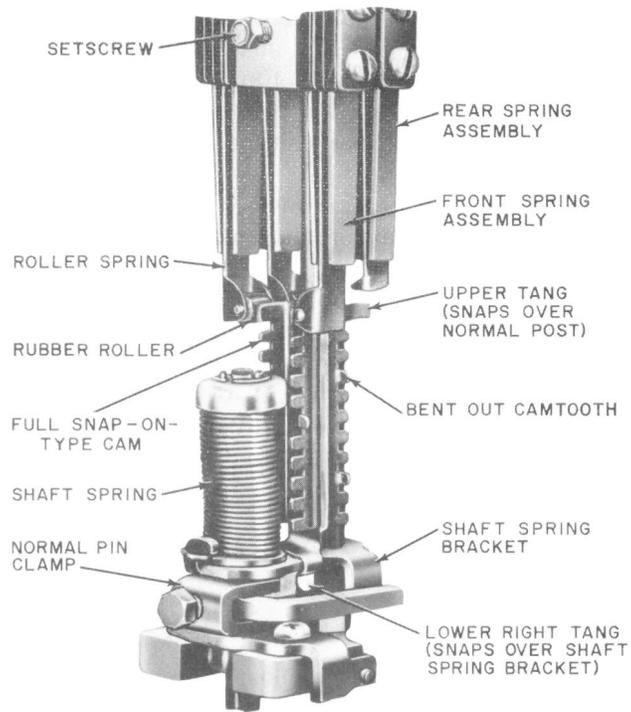
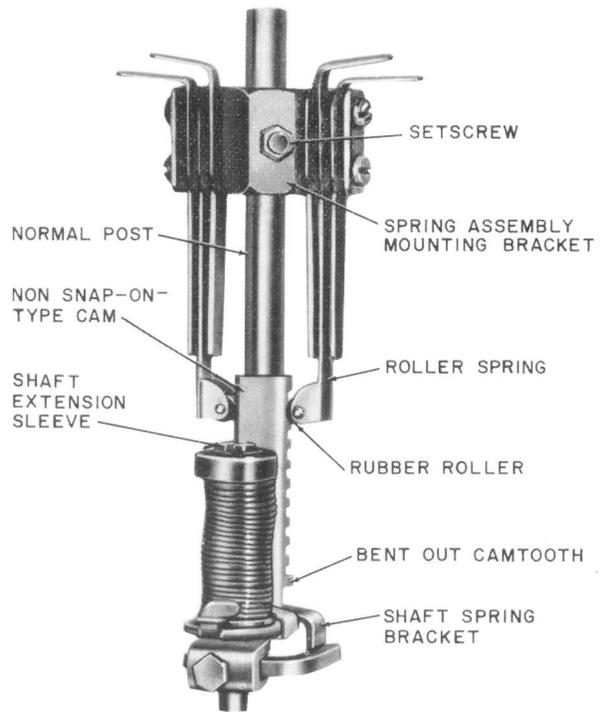
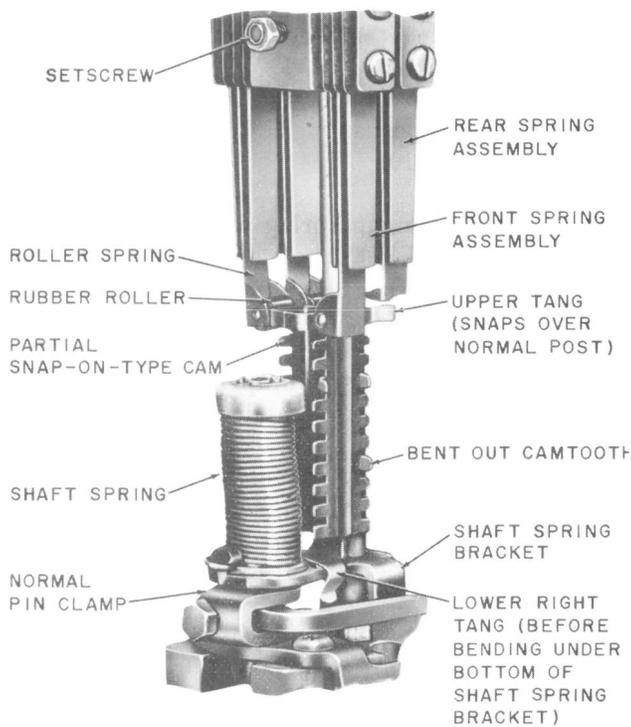

Fig. 11—Normal Post Spring Assembly Having Rubber Rollers Operated by Full Snap-on-Type Cam
Fig. 13—Normal Post Spring Assembly Having Rubber Rollers Operated by Nonsnap-on-Type Cam (Single Cam Illustrated)
Fig. 12—Normal Post Spring Assembly Having Rubber Rollers Operated by Partial Snap-on-Type Cam
NORMAL POST SPRING ASSEMBLY AND ASSOCIATED PARTS**Normal Post Spring Assembly With Cam per Fig. 11, 12, 13, and 14**
- (1) To replace the normal post spring assembly on a switch equipped with a helical shaft spring assembly, it is necessary to replace the shaft spring bracket, normal pin, and normal post spring assembly, and to add a normal post cam in accordance with Fig. 5. Full-, partial-, or nonsnap-on-type cams shown in Fig. 11 through 13 may be used.
- (2) Tag and disconnect the leads to the normal post spring assembly. Loosen the normal post spring assembly clamping screw with the 3-inch C screwdriver or the 555A wrench. Lift the spring assembly from the top of the normal post.
- (4) If the camteeth are not bent out to operate the normal post springs at the proper levels, bend out the camteeth corresponding to the levels at which the springs are to operate as covered in 3.14(5).
(5) Then mount the normal post cam as covered in 3.14(7) if it is a full snap-on-type cam per Fig. 11; as covered in 3.14(8) if it is a partial snap-on-type cam per Fig. 12; or as covered in 3.14(9) if it is a nonsnap-on-type cam per Fig. 13 and 14.
(6) Mount the new spring assembly on the normal post, placing the assembly so that the springs operate properly. Tighten the assembly mounting screws securely. Connect the leads to the spring terminals. Check all requirements on the normal post spring assembly and associated parts as covered in Section 030-705-703.
- (1) To replace a normal post spring assembly on a switch having a cup-type shaft spring assembly, it is necessary to replace the cup spring assembly by a helical shaft spring assembly and to add a normal post cam and normal post spring assembly in accordance with Fig. 5. Full-, partial-, or nonsnap-on-type cam shown in Fig. 11 to 13 may be used.
- (2) Tag and disconnect the leads connected to the normal post springs. Remove the assembly as covered in 3.10.
- (3) Remove the cup spring assembly, the shaft spring bracket, the normal pin, and the normal pin clamp as described in Section 030-705-802.
- (4) If the switch is equipped with a normal post collar, remove and discard it.
- (5) Mount the shaft extension sleeve, normal pin clamp, normal pin, shaft spring bracket, and shaft spring in accordance with Section 030-705-802.
- (6) If the camteeth are not bent out to operate the normal post springs at the proper levels, bend out the camteeth corresponding to the levels at which the springs are to operate as covered in 3.14(5).
(7) Then mount the normal post cam as covered in 3.14(7) if it is a full snap-on-type cam per Fig. 11; as covered in 3.14(8) if it is a partial snap-on-type cam per Fig. 12; or as covered in 3.14(9) if it is a nonsnap-on-type cam per Fig. 13 and 14.
(8) Mount the new spring assembly on the normal post, placing the assembly so that the springs operate properly. Tighten the assembly mounting screw securely. Connect the leads to the spring terminals. Check all requirements on the normal post spring assembly and associated parts as covered in Section 030-705-703.
(1) To replace a normal post cam, remove the cam as covered in (2) if it is a full snap-on-type cam per Fig. 11; as covered in (3) if it is a partial snap-on-type cam per Fig. 12; or as covered in (4) if it is a nonsnap-on-type cam per Fig. 13 and 14. If the proper teeth on the replacing cam have not been bent out, bend out as covered in (5) the teeth corresponding to the levels at which the normal post springs are to be operated. Mount the replacing cam as covered in (7) if it is a full snap-on-type cam per Fig. 11; as covered in (8) if it is a partial snap-on-type cam per Fig. 12; or as covered in (9) if it is a nonsnap-on-type cam per Fig. 13 and 14.
(2) *Full Snap-on-Type Cam per Fig. 11*
(3) *Partial Snap-on-Type Cam per Fig. 12:*
(4) ***Nonsnap-on-Type Cam per Fig. 13 and 14***
- (6) **General:** If the proper teeth have not been bent out, bend out as covered in (5) teeth corresponding to the levels at which the normal post springs are to be operated. Then proceed as covered in (7), (8), or (9).
(7) ***Full Snap-on-Type Cam per Fig. 11***
- (b) If the cam does not slide freely on the normal post, remove the cam as covered in (2)(b) and bend outward with the **◆B◆** long-nose pliers the part causing the interference. Remount the cam as covered in (a).
- (d) Check the vertical play between the cam and the shaft spring bracket as covered in Section 030-705-703. If the requirement is not met, remove the cam as covered in (2) and bend outward the lower right tang slightly with the **◆B◆** long-nose pliers.
(8) ***Partial Snap-on-Type Cam per Fig. 12:***
(9) ***Nonsnap-on-Type Cam per Fig. 13 and 14***